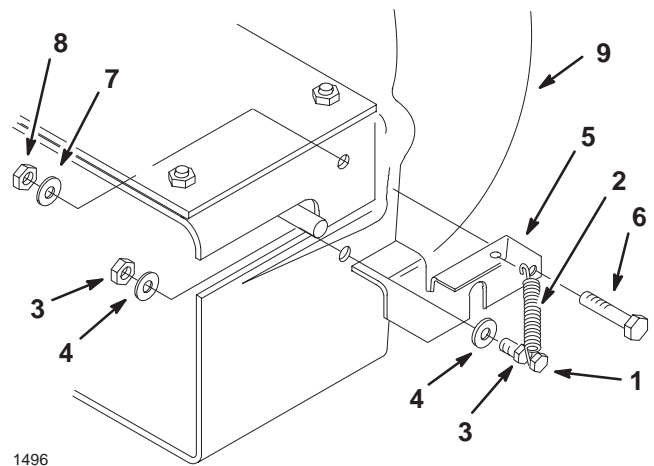

Figure 12
5. Hook the spring into the hole in the latch and mount the latch to the blower housing with a bolt (1/4 x 3/4 inch), washer (1/4 inch), and locknut (1/4 inch) (Fig. 12). Leave the nut loose enough so that the latch pivots freely.
1. Install the long hook end of the tension spring and a nut (#10) onto a bolt (#10 x 3/4 inch). Thread the nut within an 1/8 inch (3 mm) from the head of the screw to allow space for the spring to rotate freely (Fig. 12).
2. Slide a washer (#10) onto the screw and insert it through the blower housing. Install a second washer (#10) and nut (#10) onto the bolt (Fig. 12).